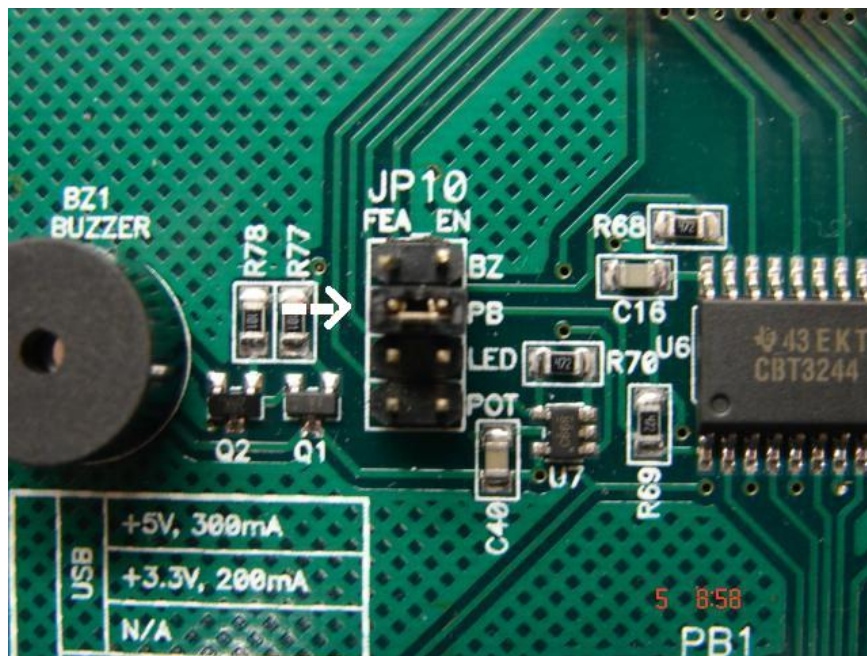

Figure 16 MCU Project Board Jumper setting for use with APS12D
- ◆ Make sure only the jumper PB on option header FEA\_EN on MCU PROJECT BOARD 2 is connected and all the others are unconnected as pictured in Figure 16